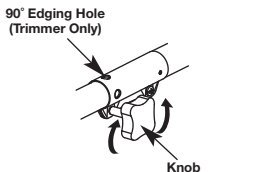

Fig. 14
1. Turn knob counterclockwise to loosen (Fig. 14).
3. Turn the knob clockwise to tighten (Fig. 14).
For edging (when using the line head cutting attachment with EZ-LINK® models), lock the release button of the cutting attachment into the 90° edging hole (Fig. 14).
1. Turn the knob counterclockwise to loosen (Fig. 14).